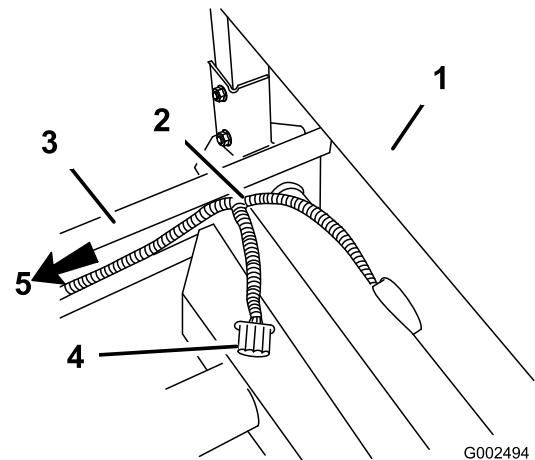

Figure 9
11. At the ROPS cover, rear of the seat assembly, route the wiring harness up from under the seat and above the frame. Make sure the spray system power connector is out from underneath the vehicle (Figure 9).
12. Route the harness along the frame and back to the speed sensor with the existing wiring (Figure 9).
15. Route the harness along the frame and back to where the speed sensor is connected to the existing wiring (Figure 9).